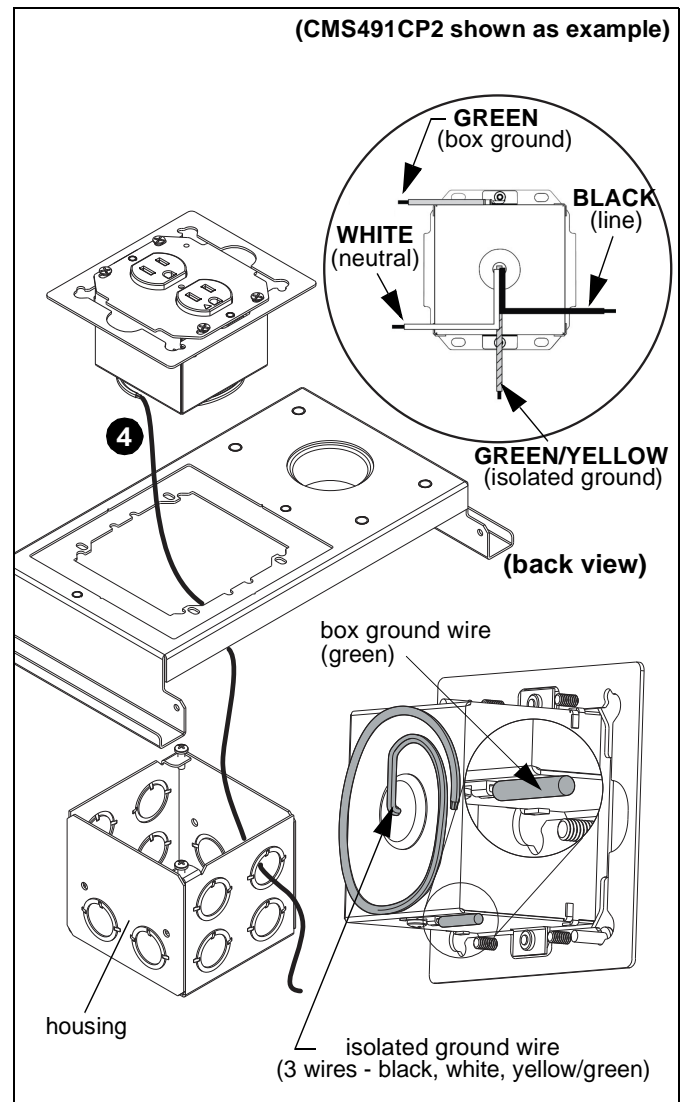

Figure 2
- Wire the EGX-SF2 outlet box as required making sure the wiring passes through the outlet hole in the housing. Refer to Table 1 and Table 2 for input and output specifications. (See Figure 2)